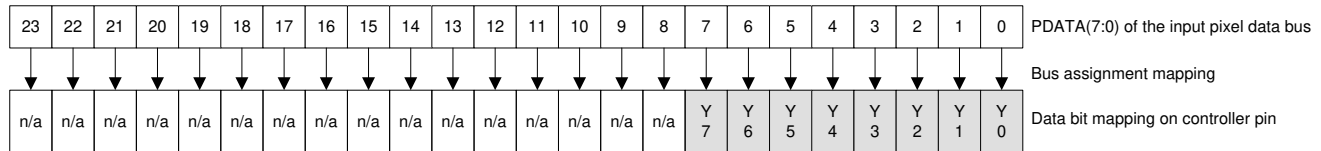

Figure 6-9. BT.656 Interface Mode Bit Mapping
- (1) Calculate clock jitter (in ns) using this formula: $\text{Jitter} = [1 / f_{\text{clock}} - 5.76 \text{ ns}]$. Clock jitter must maintain setup and hold times. BT.656 data bits must be mapped to the DLPC34xx PDATA bus as shown in Figure 6-9 shows BT.656 bus mode YCbCr 4:2:2 source PDATA (23:0) mapping.
- (2) The BT.656 interface accepts 8 bits per color, 4:2:2 YCb/Cr data encoded per the industry standard through PDATA(7:0) on the active edge of PCLK (that is programmable). See Figure 6-9.